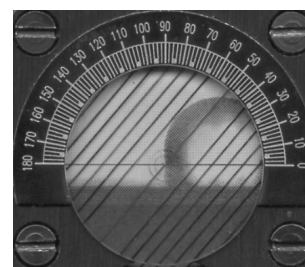

Figure 2.17
- Locate the top of the droplet and rotate the protractor until the centre line goes through the top of the droplet (Figure 2.17). *The top of the droplet is easier to locate with smaller droplets, which also will increase the precision.*